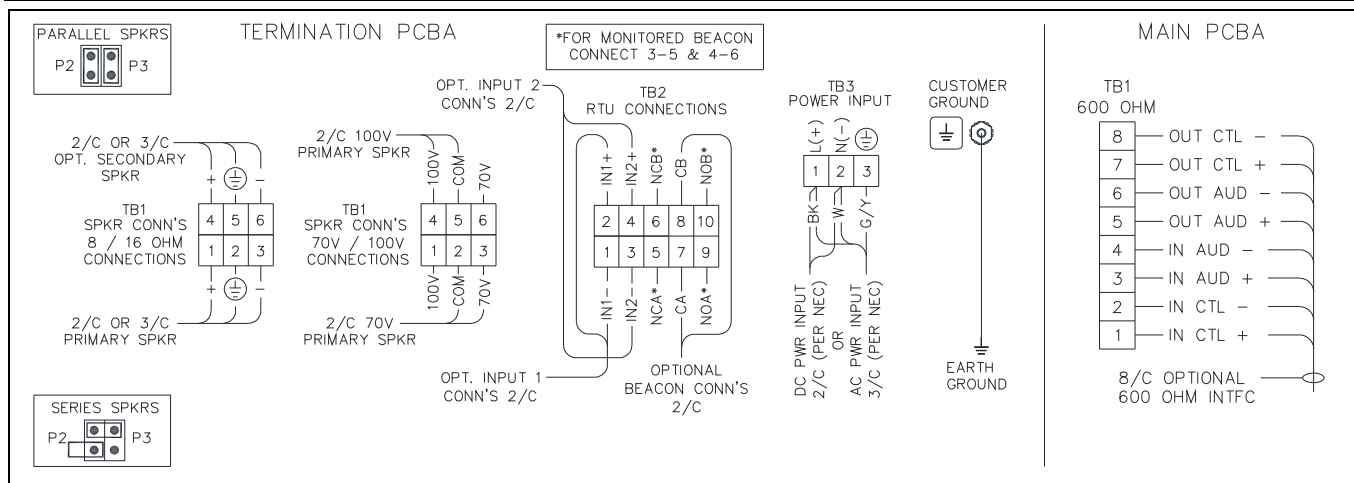

Figure 3. SP2 Connection Diagrams
1. Terminate the direct speaker connection to terminal block TB1 on the termination PCBA (see Figure 3).
1. Connect 100-volt speakers between the 100V and COM terminals on terminal block TB1. Connect 70-volt speakers between the 70V and COM terminals on terminal block TB1 (see Figure 3).
5. Terminate the RTU inputs and output to terminal block TB2 on the termination PCBA (see Figure 3).
6. Terminate the ac or dc power input to terminal block TB3 on the termination PCBA (see Figure 3).
7. Terminate the 600-ohm audio connections to terminal block TB1 on the main PCBA (see Figure 3).